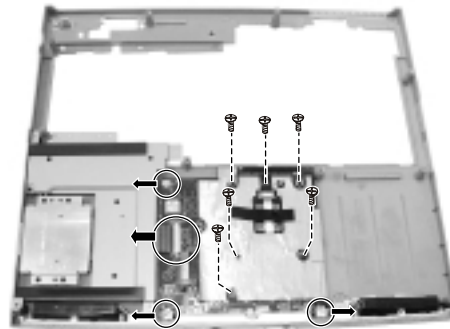

Figure 2-29 Remove the top mother board
3. Disconnect the three cables from the top mother board. (Figure 2-29)
4. Remove the six screws to lift up the top mother board and touch pad panel. (Figure 2-29)